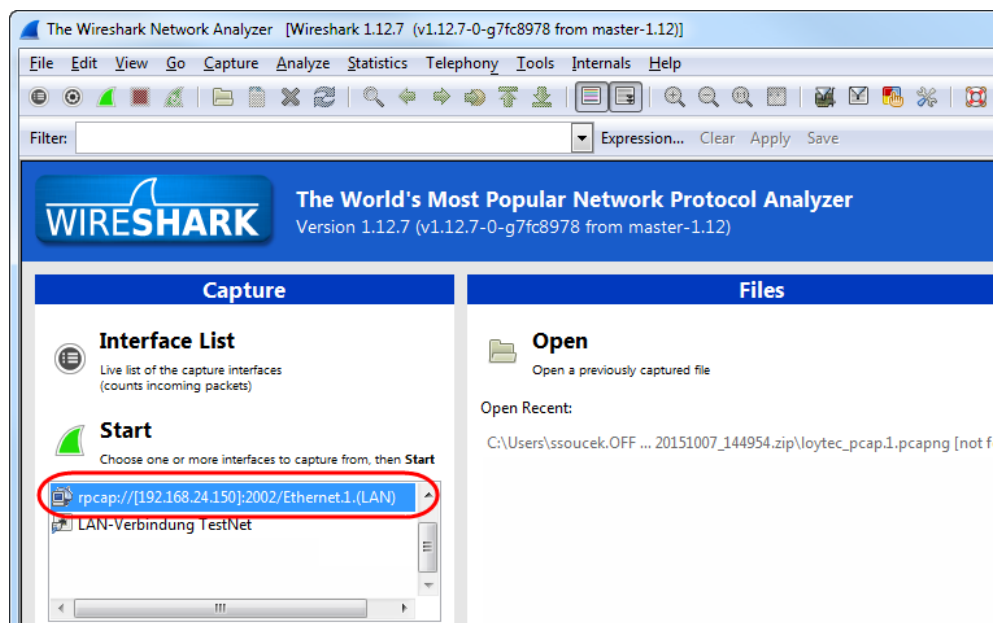

Figure 171: Start Remote Capture in Wireshark.
2. Click the **Start** button as shown in Figure 171.